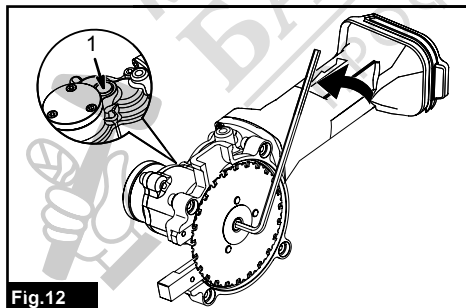

Fig.12
- Fig.12: 1. Push (Lock Button)